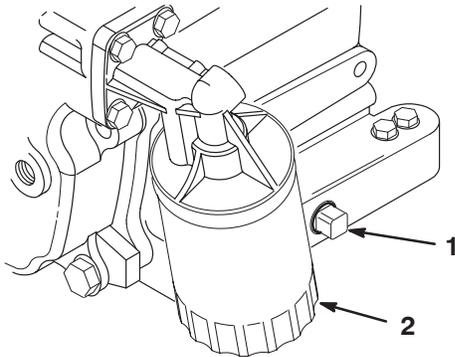

Figure 28
5. Remove the drain plug (Fig. 28) and let the oil flow into a drain pan. When the oil stops, install the drain plug.
2. Remove the existing oil filter (Fig. 28). Apply a light coat of clean oil to the new filter gasket.